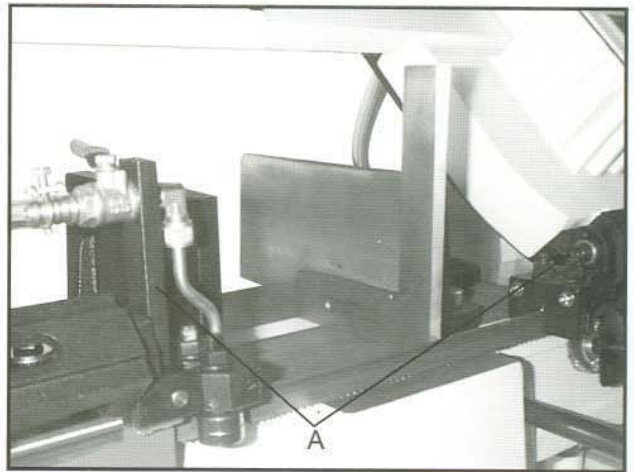

Fig. 13
2. Place a machinist's square on the table next to the blade as pictured in Fig. 13.
4. If adjustment is necessary, loosen bolts (A, Fig. 13) and rotate the blade guide assemblies slightly in the same direction until the blade makes contact with the square along it's entire width.
5. Tighten bolts (A, Fig. 13).